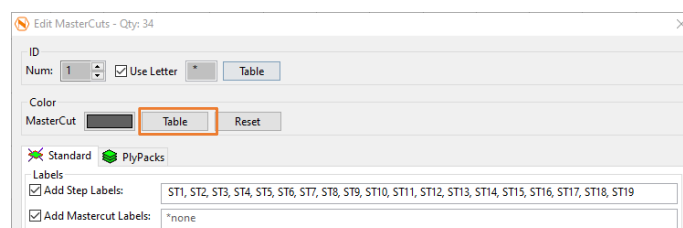

Figure 266
59. Back in the Edit MasterCuts dialog click  (Figure 266).